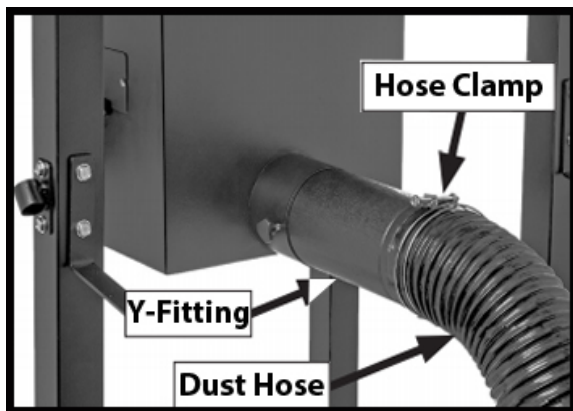

Figure 40
1. Fit a 4” dust hose over the dust port and secure with a wire hose clamp. (See Fig.40)